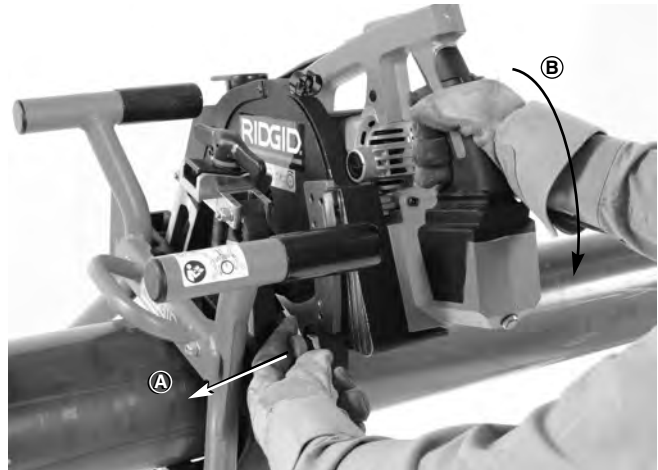

Figure 14 – Plunge Lock Pin Disengagement
3. With right hand, press the ON (I) switch to turn saw ON. The saw blade will start rotating.
4. Firmly grip the saw handle with your right hand. With left hand, pull the spring-biased plunge lock pin on clamp until it disengages from the ready position hole in saw **A**. See Figure 14.